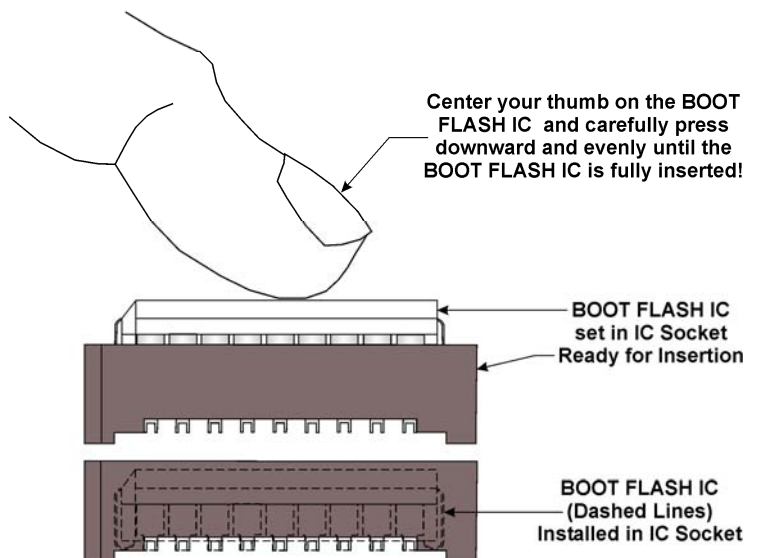

Figure 2 – BOOT FLASH IC Replacement
## Part 5 - Reinstalling the Chip (Refer to Figure 2)
1. Set the BOOT FLASH IC onto the FLASH IC Socket of the ControlWave's CPU board (as shown in Figure 2).